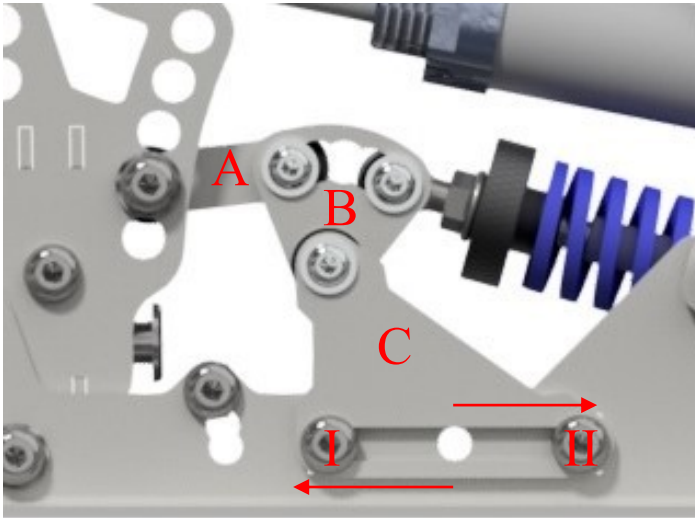

Fig. 10. Clutch mechanism.
- B. unscrew the three bolts securing levers A and B [Fig. 10];
By mounting lever A at the highest point, we obtain the highest resistance force, while installing it in the fifth mounting hole, we will obtain the lowest resistance force. In [Fig. 10] shows the position of setting the clutch mechanism in the most optimal and effective position. Adjustment of the resistance force can be done by changing the position of levers A and B, but it is recommended that this parameter be adjusted by the position of the piston and the compression spring pressure.
- E. support C is an additional element that can be used to adjust the clutch mechanism [Fig. 10]. To use it, unscrew bolt I or II, then move support C to the left or right side, then transfer the selected bolt I or II to the central hole and screw it on;